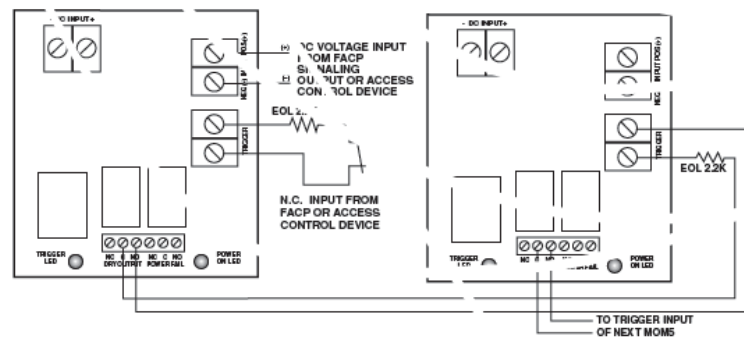

Fig. 7 - Two (2) or more MOM5 modules shown with wet and/or dry normally open trigger inputs (Non-Latching):
7. To trigger the unit from a FACP connect signaling circuit of FACP to terminals marked [– INPUT +] on MOM5 board (Figs. 1 – 4, pgs. 6 – 9). Polarity is shown in alarm condition. For latching fire alarm interface see Fig. 7, pg. 11; Figs. 8 & 9, pg. 12.